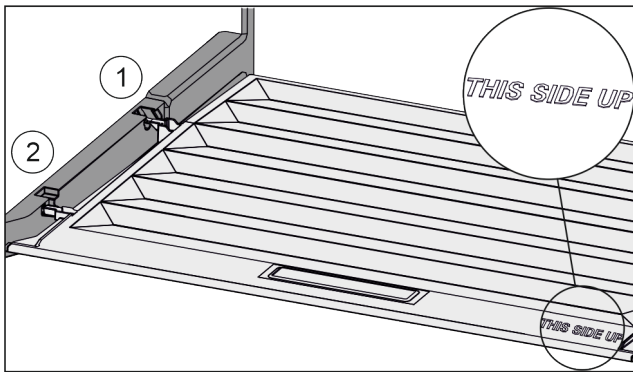

Fig. 123
- ▶ Insert the lip of the cover over the opening of the rear bracket Fig. 123 (1) and click into place Fig. 123 (2).